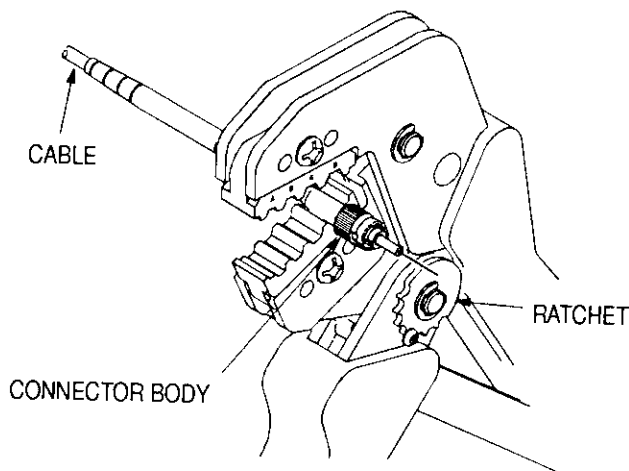

Figure 3
4. CRIMPING PROCEDURE (Figure 3)
2. Place connector in the appropriate crimping section of dies as shown in Figure 3.